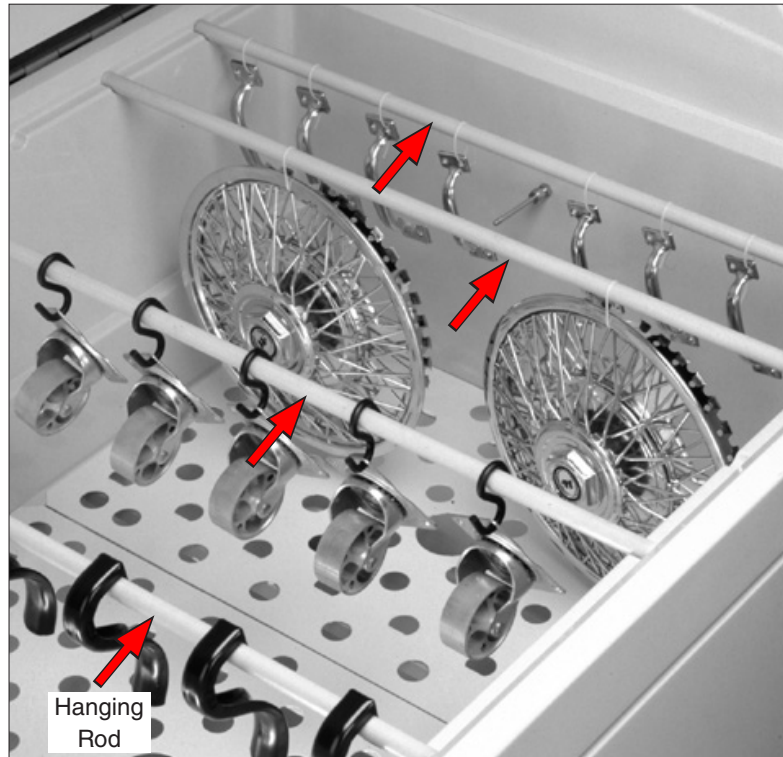

Figure 10.2.3a: 3D parts suspended from hanging rods in chamber.
- Three dimensional (3D) parts can be suspended from hanging rods (Figure 10.2.3a and Figure 10.2.3b).